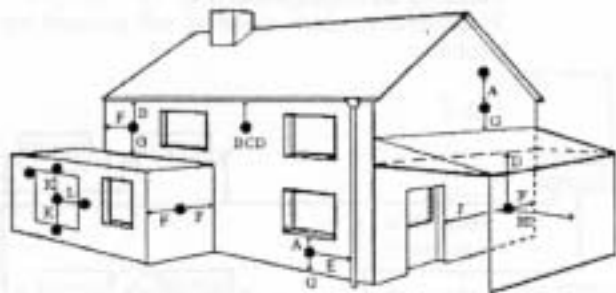

Fig. 6
**4.6.1** The terminal should be located where dispersal of combustion products is not impeded and with due regard for the damage or discolouration that might occur to building products in the vicinity (see fig. 6). The terminal must not be located in a place where it is likely to cause a nuisance.
Minimum acceptable spacing from the terminal to obstructions and ventilation opening are specified in Fig. 6.